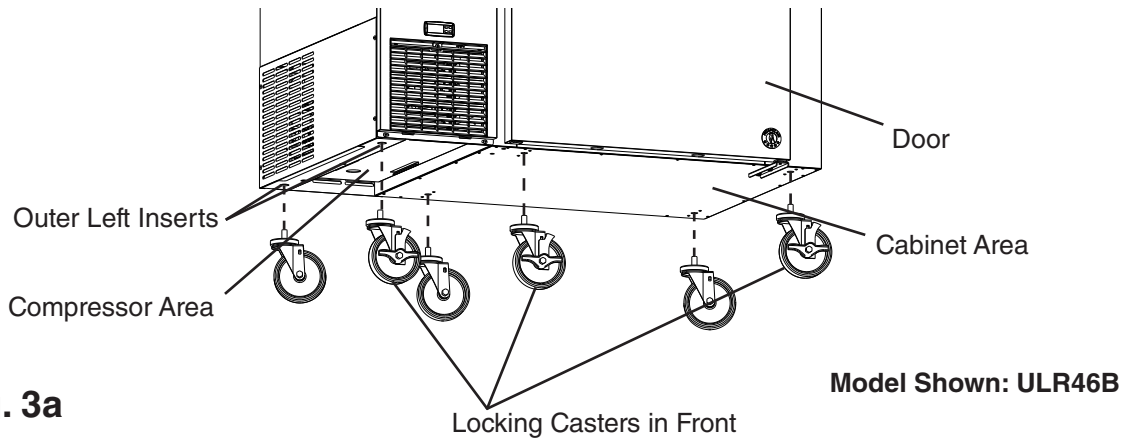

Fig. 3a
3) Attach the casters to the bottom of the appliance. Locking casters should be attached to the front of the appliance. See Fig. 3a, 3b, or 3c. **NOTICE! Do not place blocks under the refrigeration area or doors/drawers of the appliance. Do not lay the appliance down.**
- a) **XLX46B(-D2):** Attach all 6 casters. See Fig. 3a. **WARNING! On XLX46B(-D2) models, all 6 casters must be installed. Otherwise, appliance may tip.**